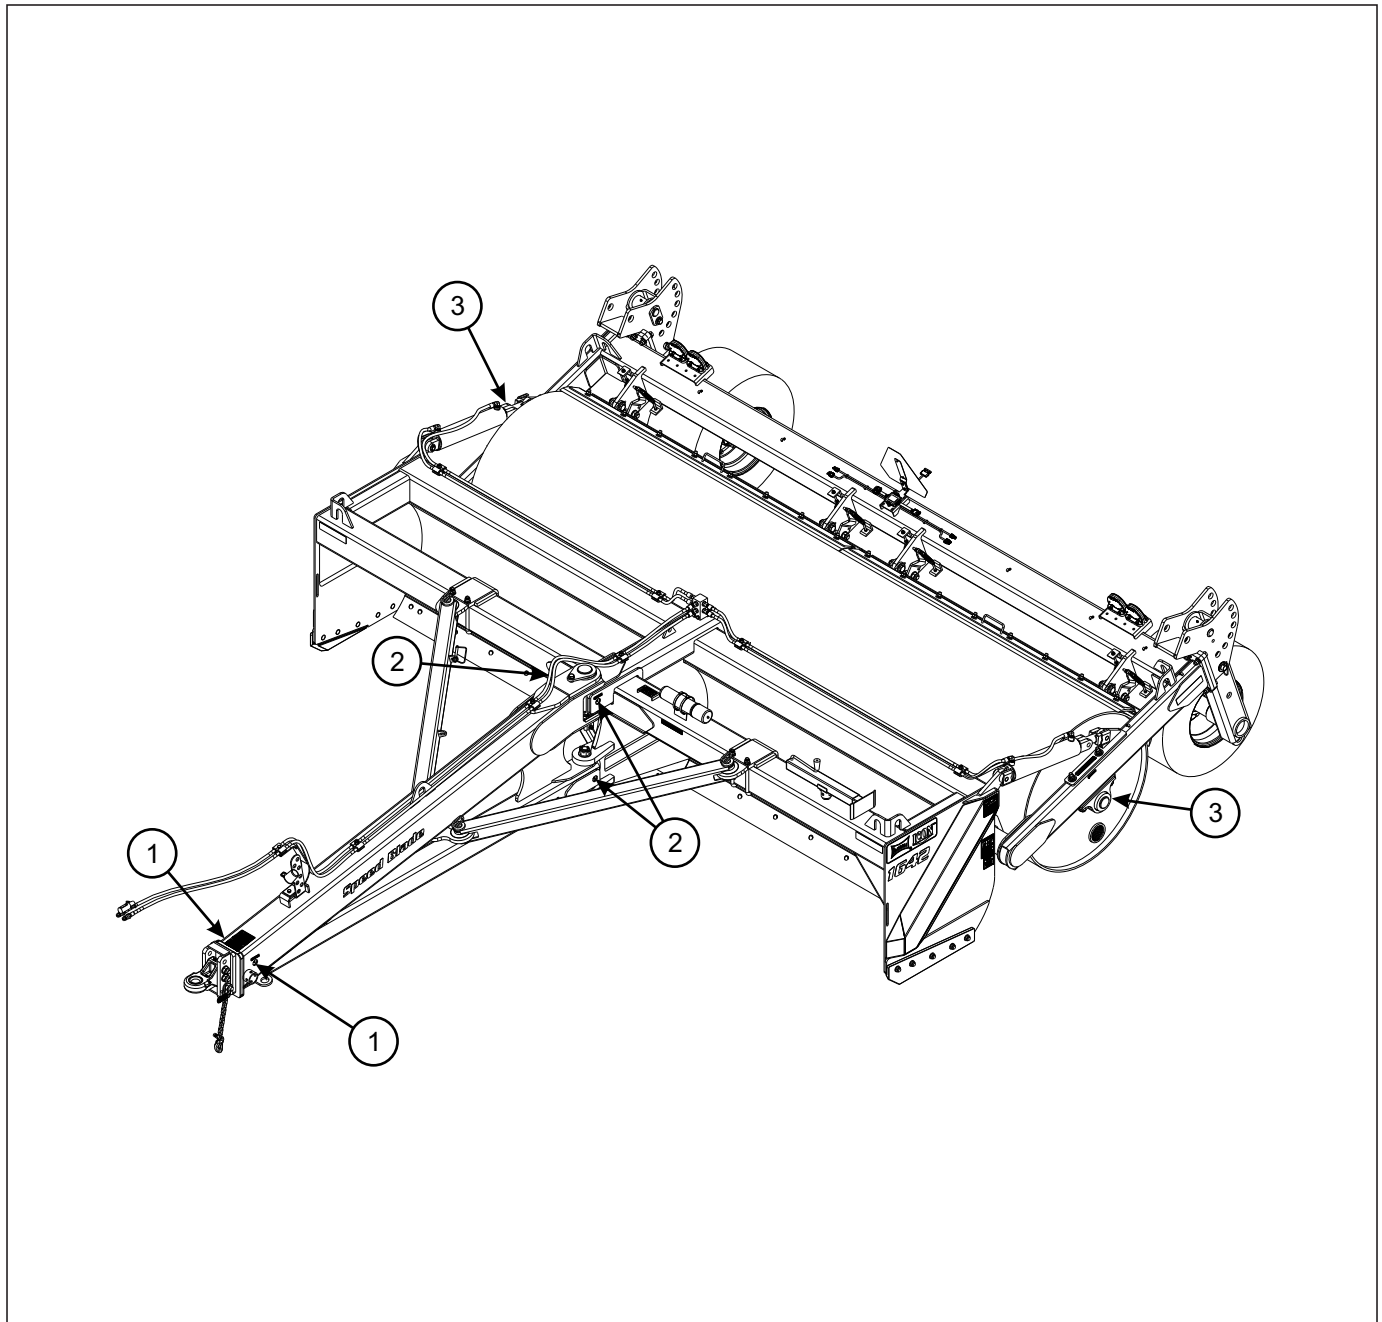

Figure 4-1: Lubrication Schedule
1. **Table 4-1** specifies the number and the period of lubrication points on the Speed Blade. Proper maintenance of your machine will, under normal operating conditions, help to keep it operating at or near its peak performance for an extended period of time. Proper maintenance is also a condition of keeping your warranty in good status (**See Figure 4-1.**)